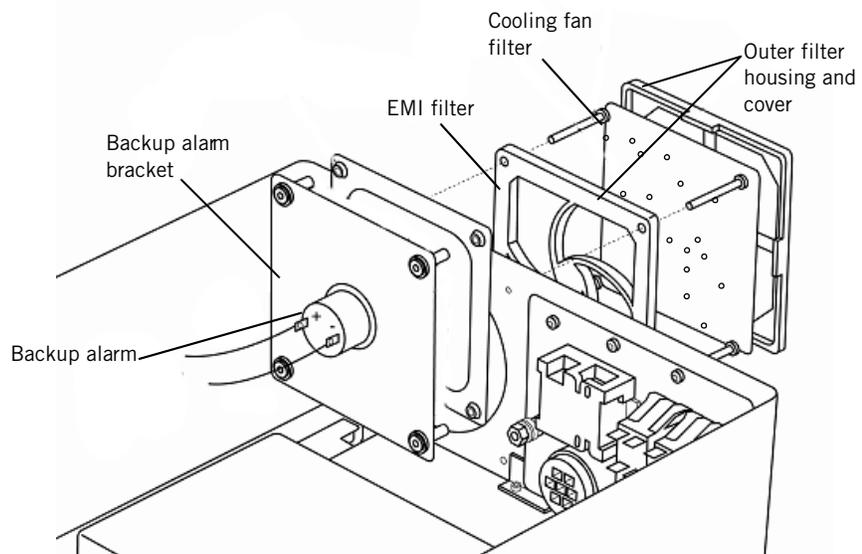

Figure 10-25: Removing the Backup Alarm
Follow these steps to remove the backup alarm (Figure 10-25). Reverse removal steps to install.
2. Remove the outer filter housing and mesh cooling fan filter (Figure 10-25).